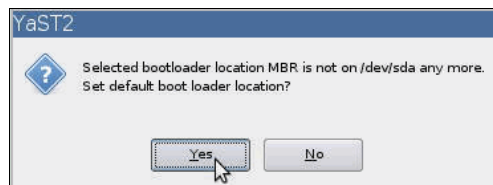

Figure 2-102 Confirming the new Bootloader location
- We now confirm the new location of the bootloader. Click **Yes** to confirm the new location, as shown in Figure 2-102.